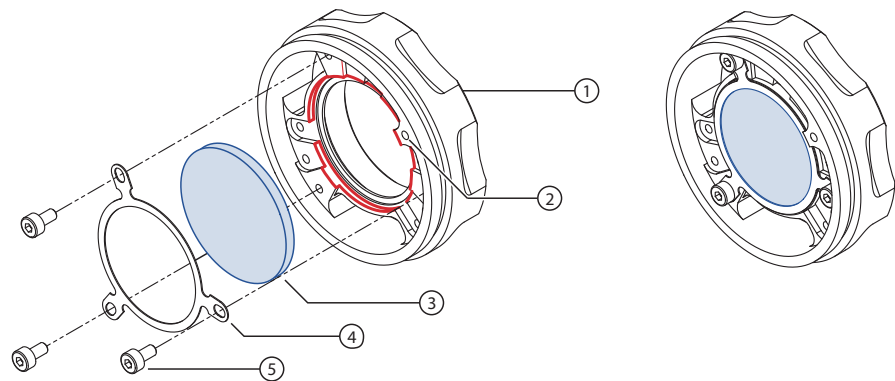

Figure 12: Changing the filter in the C-Mount adapter
3. On the back side of the mount, loosen the three cylinder bolts (5) of the filter fixing ring (4), using a Torx T6 tool.
5. Remove the existing filter glass (3) from the adapter.
- See Figure 12 (blue = filter, red = filter recess).